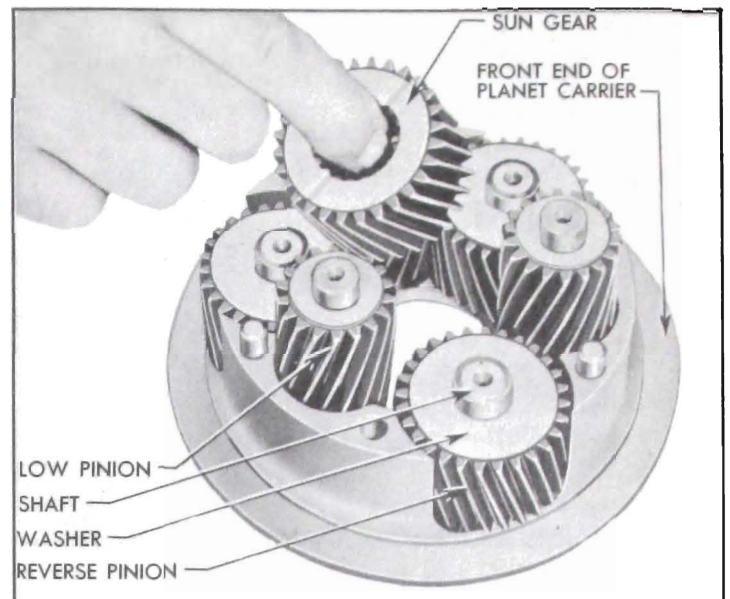

Figure 5-83—Removal of Sun Gear and Planet Pinions
3. Remove the sun gear rear thrust washer, which may be either on sun gear or stuck in rear end of carrier. Remove reverse sun gear. See figure 5-83.
5. Remove the 3 low planet pinion assemblies, each consisting of a pinion, shaft, and bearing rollers retained at each end of pinion by steel thrust washers. See figure 5-83. A retaining ring snapped into a groove in shaft will hold the lower thrust washer in place as shaft is tapped out of carrier. The shaft is prevented from turning in carrier by a $\frac{3}{32}$ " steel ball imbedded in end of shaft. Do not lose the steel ball.
each shaft to prevent turning in carrier, then install planet pinion assemblies in front end of planet carrier, using care to engage the steel balls in the notches in carrier. See figure 5-83.